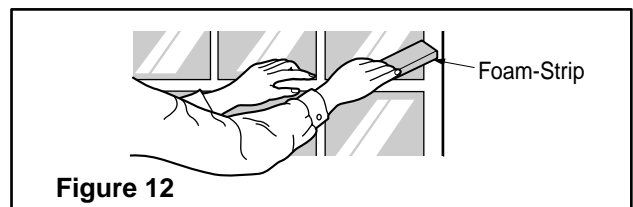

Figure 12
8. Cut the Foam-strip to the proper length and insert between the upper window sash and the lower window sash. (See Fig. 12)